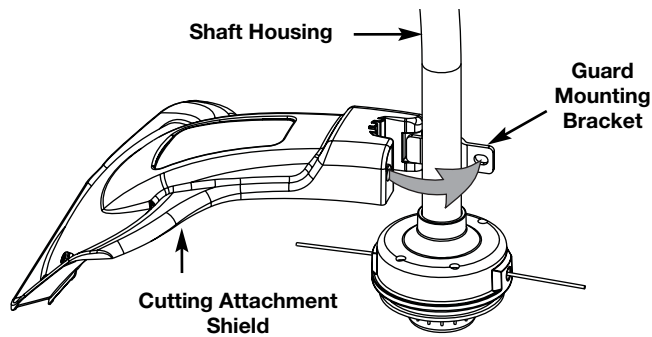

Fig. 17
- Place the cutting attachment shield onto the shaft housing. Be sure the guard mounting bracket slides into the slot on the edge of the cutting shield. Rotate the shield into place, counterclockwise (Fig. 17). The holes in the guard mounting bracket and cutting attachment shield will line up.